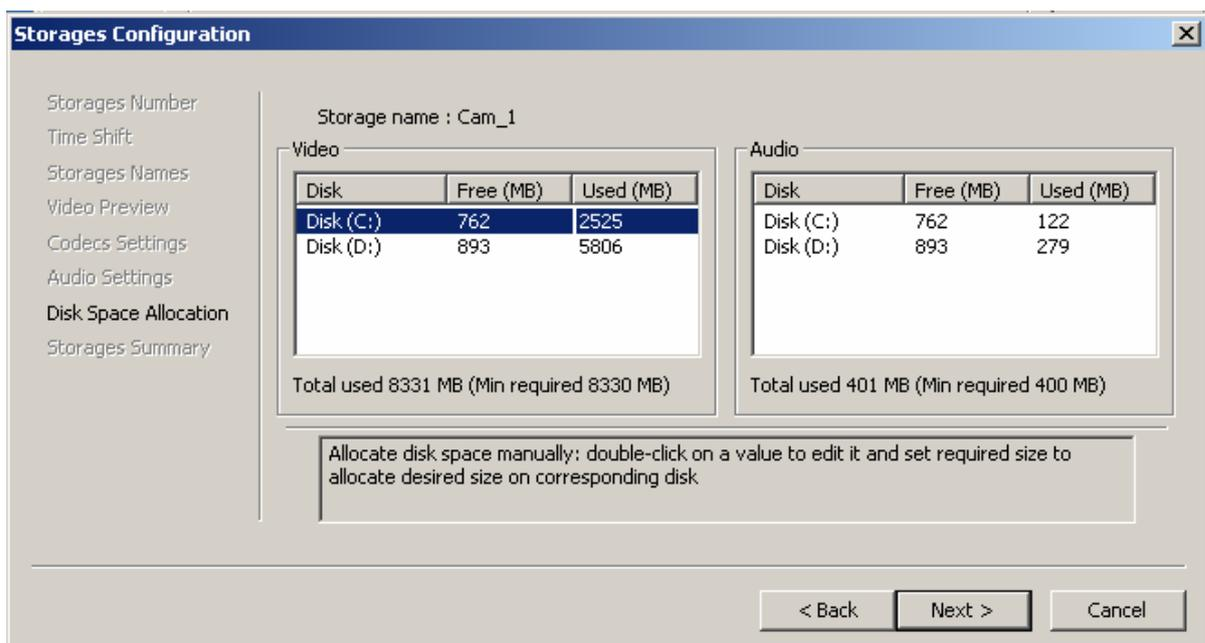

Fig. 14. Manual disk space allocation
On these pages (Fig. 14), which are displayed in turns for each storage, there are two tables, **Video** for video data and **Audio** for audio data. Each of them includes three columns: **Disk**, **Free (MB)**, and **Used (MB)**. The first column displays disks names, the second column displays free space on each disk, the third – the space allocated for a storage on the disk.